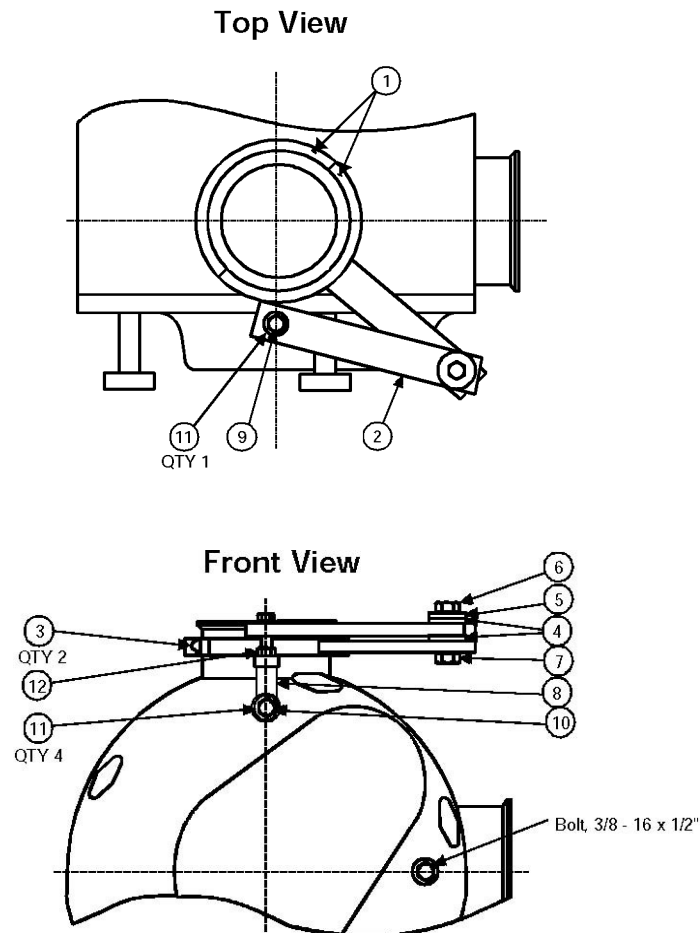

Figure 13 – Front Cover Hinge
The front cover hinge is available for the MR-135 and the MR-150 MasoSine Pump. It allows for the front cover to be hinged to the pump housing for easier maintenance. When assembling the front cover hinge, follow the steps below and refer to Figure 13 and the associated parts list. Install the hinge only when the front cover is attached to the pump housing.
1. Attach the ring arm, item 1a or 1b, to the top nozzle of the pump and insert the two cap screws, item 3, into the slots on the diameter of the ring. Do not tighten the cap screws completely. **NOTE:** The ring arm is two pieces, a half ring and a half ring with a rectangular bar welded to it. The ring arm can point to either side of the pump depending on which way you prefer the front cover to swing away from the pump housing.
2. Stack the following items, with their holes aligned, above the hole at the end of the ring arm in the order listed: a.) one plastic washer, item 4, b.) the pivot arm, item 2, using the smaller diameter hole c.) the other plastic washer, item 4, and d.) the stainless steel washer, item 5. Install the bolt, item 5, by fitting it through the stacked items and threading it into the hole on the right arm. Tighten the bolt until the parts are secure but loose enough to allow rotation of the pivot arm. Thread the hex nut, item 7, onto the bolt and tighten securely to lock the bolt in place.
3. Attach the rod end, item 8, with two washers, item 11, on either side of the ball, to the front cover using the bolt, item 10. The bolt will thread into the tapped hole on the front cover.
4. Place the washer, item 11, on the bolt, item 9, and insert the bolt through the hole on the end of the pivot arm. Thread the hex nut, item 12, onto the end of the bolt, but do not tighten.
6. Rotate the ring arm until the rod end is vertical as shown in Figure 13. Tighten the cap screws until the ring arm is secure.